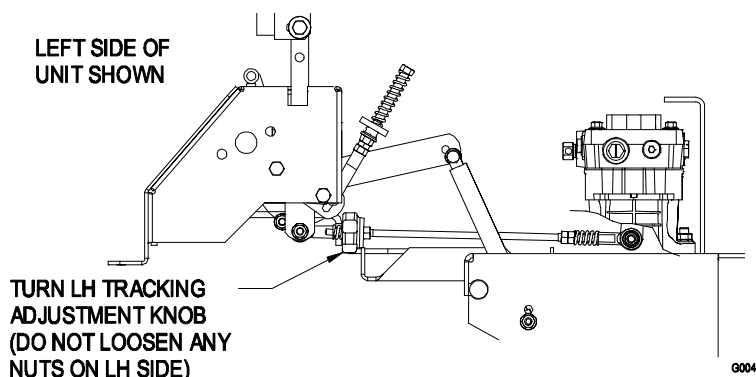

FIGURE 15
- i) Bring the LH motion control lever into the neutral position. Adjust the LH pump control rod length by rotating the tracking adjustment knob in the appropriate direction until the wheels slightly creep in reverse. Move the motion control lever to the reverse position and while applying slight pressure to the lever allow the reverse indicator spring to bring the levers back to neutral. The wheel must stop turning or slightly creep in reverse. See Figure 15.